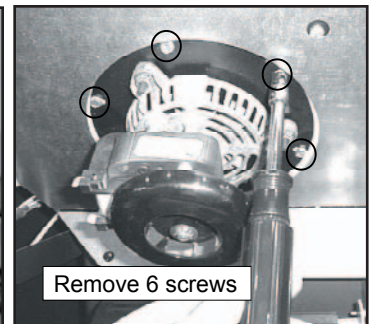

Figure 31.3
- Remove 6 screws using a flathead screwdriver or a 1/4" nutdriver. Retain screws for use on replacement blower. **Figure 31.3.**